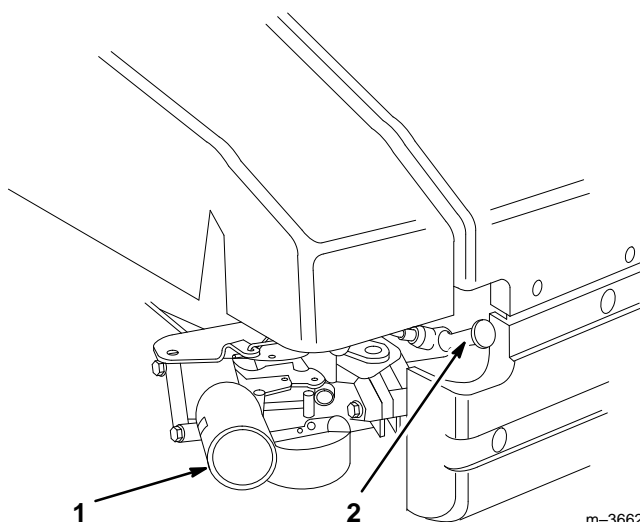

Figure 9
3. Connect spark plug wire (if disconnected) (Fig. 9).
1. Push spark plug wire onto spark plug (Fig. 9).
4. Push primer three (3) times (Fig. 9). **Wait about two (2) seconds between each push.**